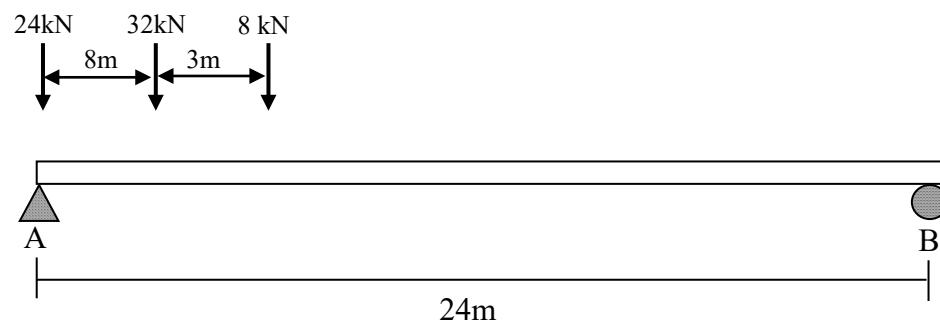

Figure A2(b)/ Rajah A2(b)
- CLO3 (b) A 24m long simply supported beam carries a series of concentrated loads, as shown in Figure A2(b) below. Evaluate the absolute maximum moment in the beam produced by the wheel loads using Influence Line Diagram.